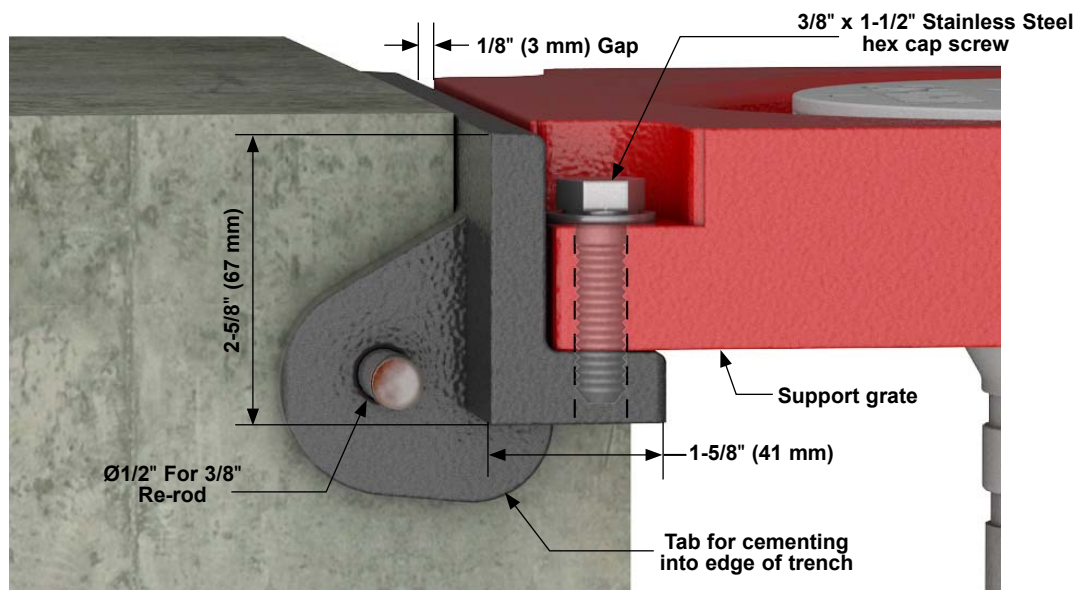

Figure 8.1.2: "X"-Frame Installation Dimensions
- K. The "X" frame furnished with the Grate Nozzle assembly shall be set in concrete using re-rod as shown in Figure 8.1.2.
- L. Positioning must be flush with floor, aligned for bolting of grate to frame and placed to accommodate the remaining grate drainage system. (see Figure 8.1.2 and 8.3.1)